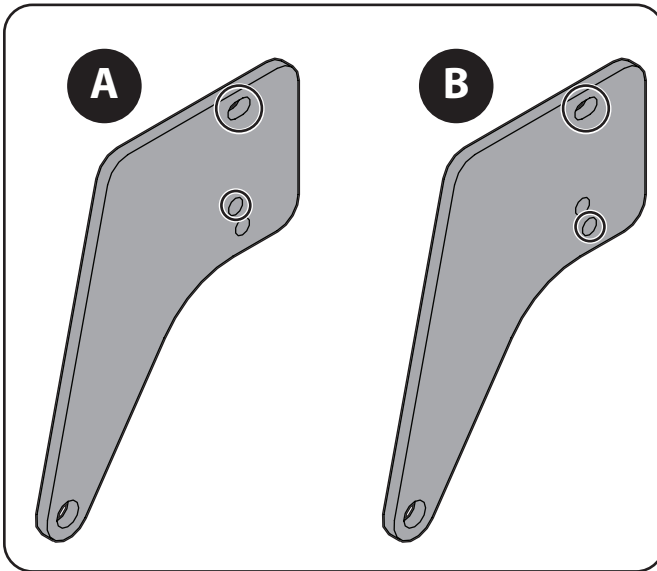
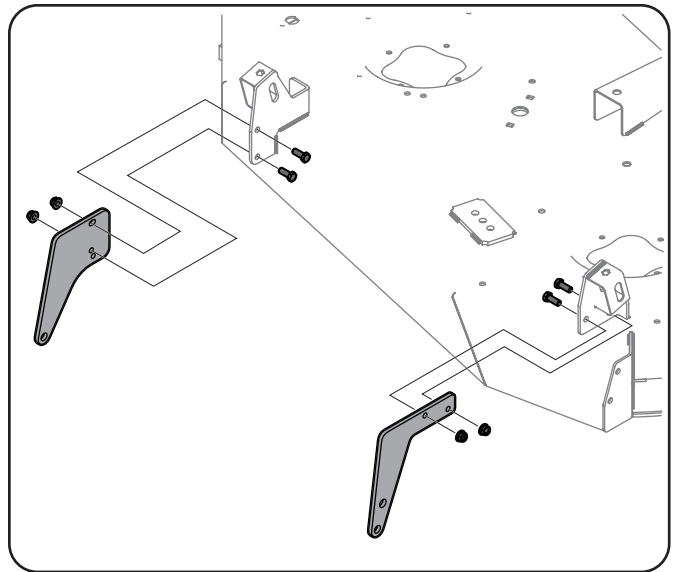

Figure 1-14
Figure 1-15
1. Use Figure 1-14 below to identify which mounting holes to use in mounting the Left Roller Bracket (#6) to the deck. Fabricated Decks - Use mounting hole locations "A". Stamped Decks - Use mounting hole locations "B"
2. Install the Left and Right Roller Brackets (#6 & #7) to the location shown in Figure 1-14 on the Tractors deck with two Hex-head Capscrews (#1) and two $\frac{3}{16}$ Lock Nuts (#3) per side. See Figure 1-15.